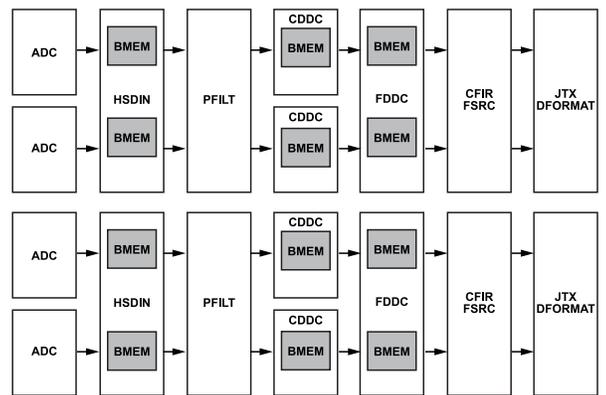

Figure 152. BMEM Locations in the Receive Data Path
As illustrated in Figure 152, there are blocks of buffer memory within 3 different functional blocks in the receiver data path. The HSDIN block as shown in the block diagram encapsulates the sample data buffers (BMEM0), sample crossbar (Mux1), and the functions performed on the sample data – fast detect (FD), signal monitor (SMON) and the spectrum sniffer which locates at the output of the ADCs. On the data path, there are two BMEMs in the CDDC and FDDC block respectively.